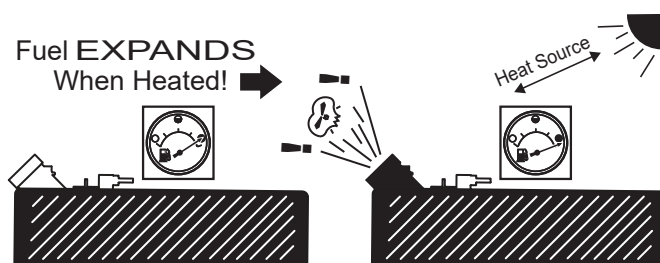

Figure 37. Fuel Expansion
**DO NOT OVERFILL** the fuel system. Leave room for fuel expansion. Fuel expands when heated (Figure 37).